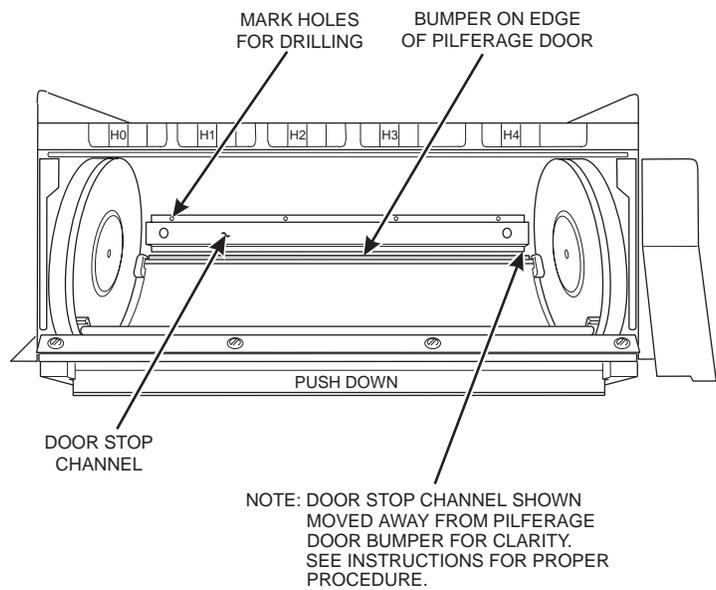

Figure 3
4. Place the door stop channel on the delivery door. Position the channel so it is centered left to right (see figures 3 and 4).